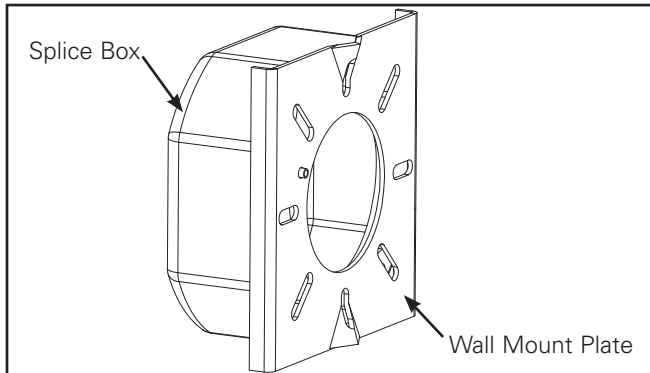

Figure 1.
1. Install wall mounting plate to splice box using splice box hardware (provided by others) and tighten to 17 IN/LBS torque when using 8-32 screw. Make electrical connections to outlet box (Figure 1).